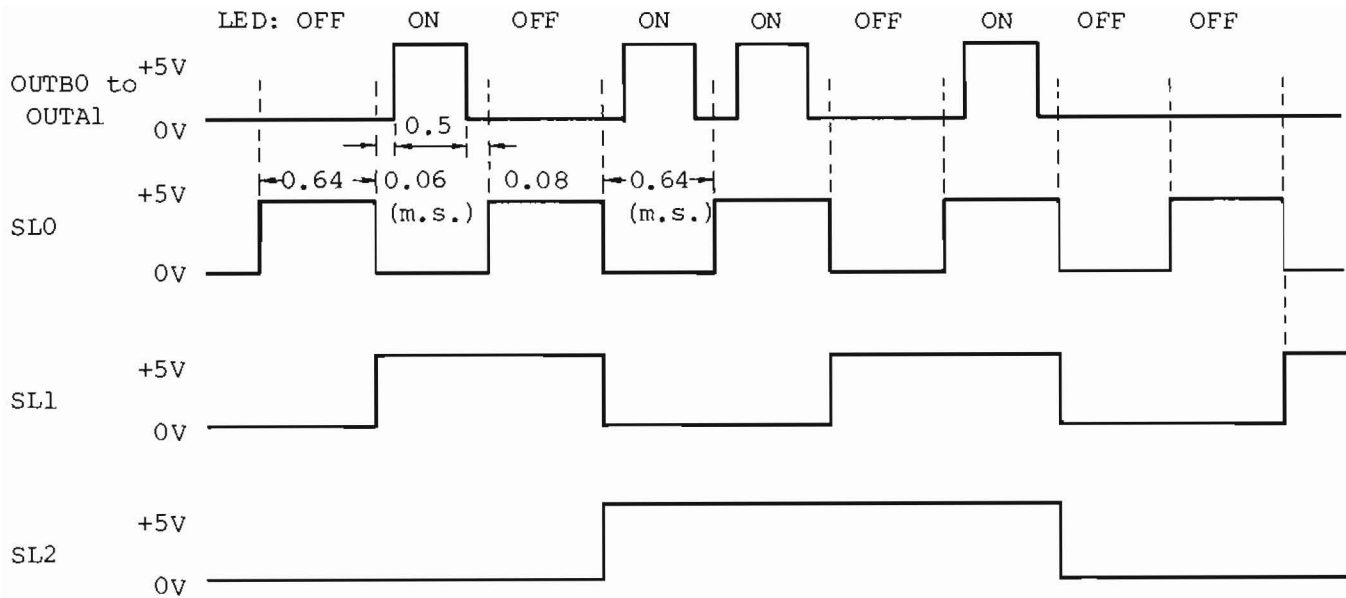
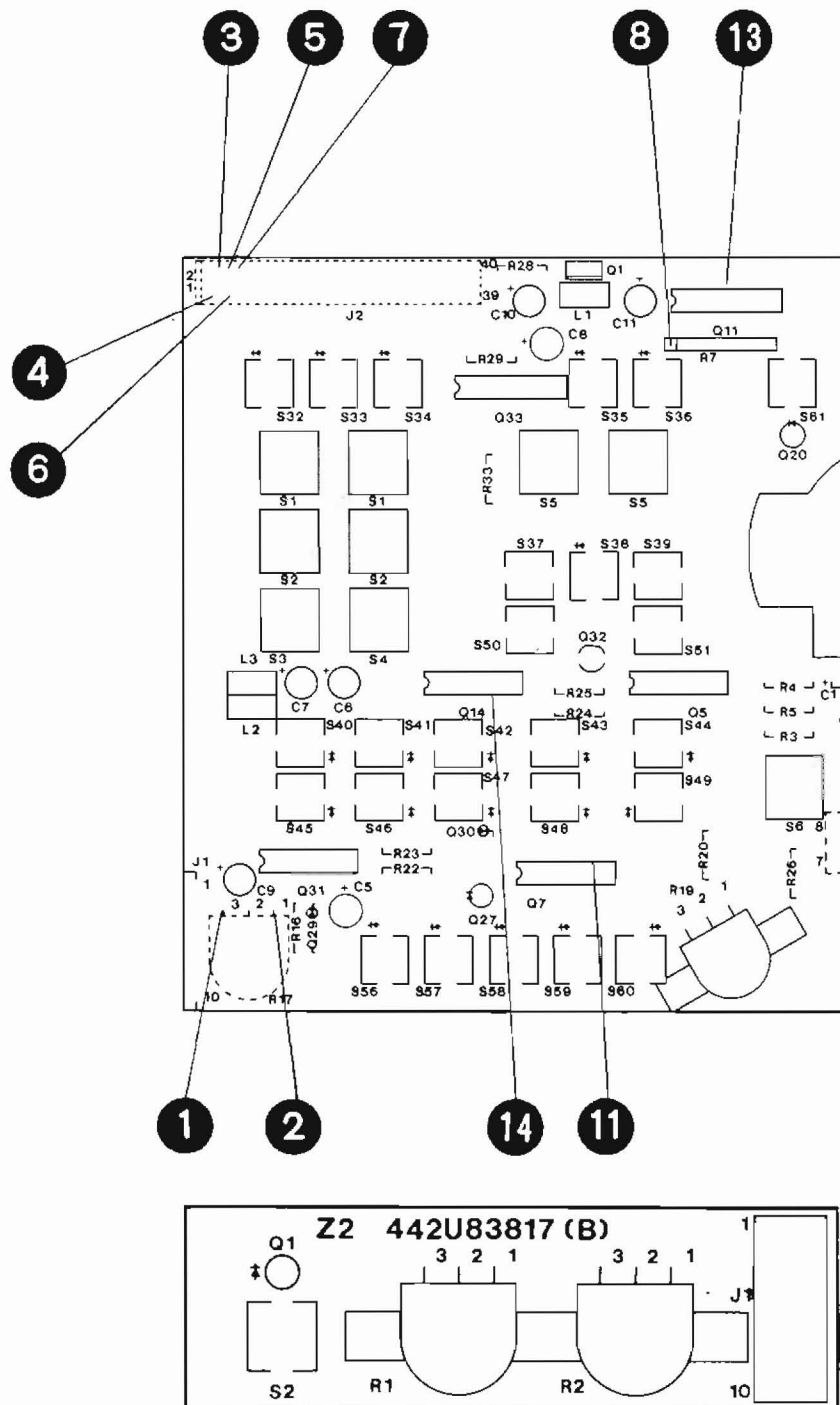

Fig. 5-1 Display Scan Timing (Z1 FRONT PANEL I)
Fig. 5-2 Z1 and Z2
2.	Use an oscilloscope to confirm that the voltages of checkpoint ① to ⑨, shown in Figs. 5-2 and 5-3, satisfy the values listed in Table 5-1 and are indicated in the figures.
3.	While turning the rotary encoder (data knob), observe the waveforms at checkpoint ⑩ on the oscilloscope and confirm that the pulse-shaped signals are being generated as below.
4.	When turning the rotary encoder clockwise, confirm that the checkpoing level ⑪ is set to the low level (0 V). When turning it counterclockwise, confirm that the checkpoint level at ⑪ is set to the high level (5 V).
5.	If an abnormality occurs during the check explained in procedure 3 or 4, recheck the abnormality by adjusting R2 ⑫.
6.	If the signal waveforms at checkpoint ⑬ SL0 to SL2 and checkpoint ⑭ OUTB0 to OUTA1 appear as shown in Fig. 5-1, they are normal.
2. The vertical chassis upon which Z3 to Z6 are mounted can be removed by disconnecting the cable and removing the setscrews that secure this block. It is not necessary to remove the entire front panel (Fig. 5-1 shown before).